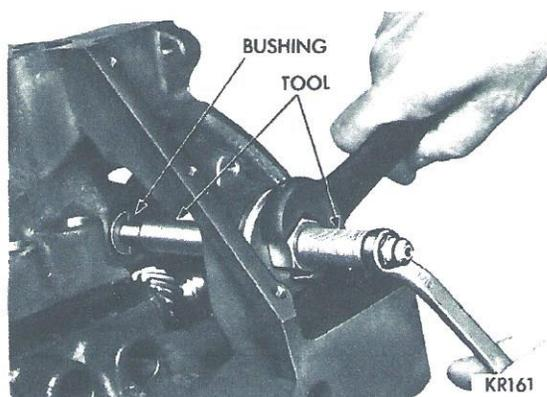

Fig. 33—Burnishing Distributor Drive Shaft Bushing
- (3) As the burnisher is pulled through the bushing by tightening remover nut, the bushing is expanded tight in the block and burnished to correct size (Fig. 33). **DO NOT REAM THIS BUSHING.**